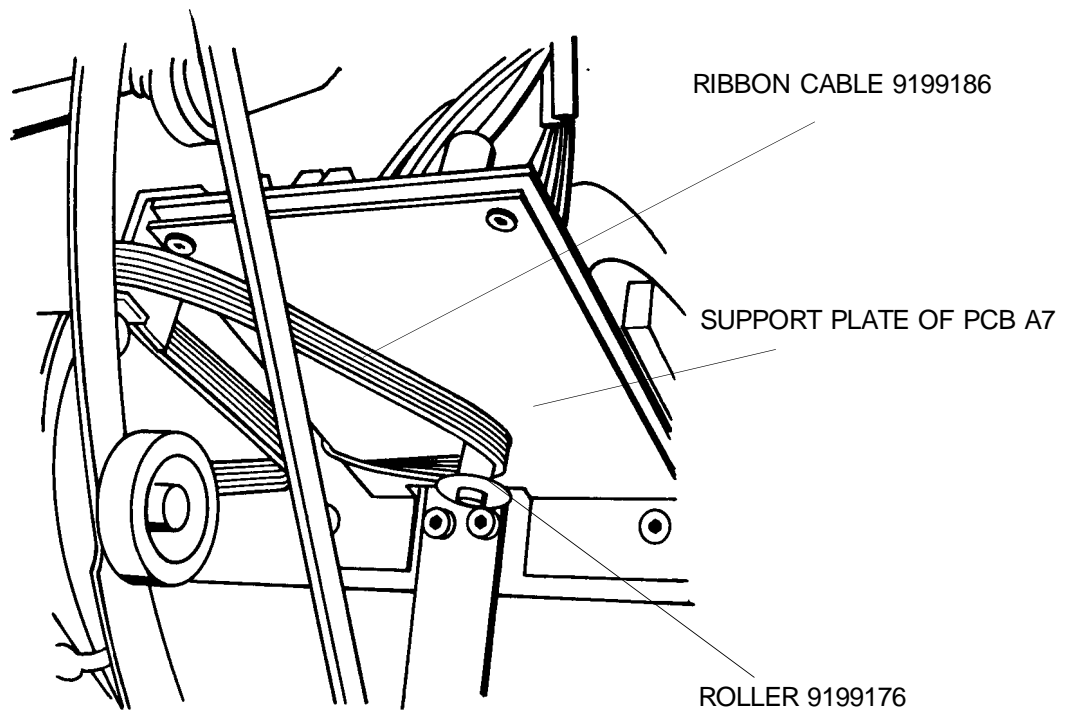

figure 10
- 13.** Route RIBBON CABLE around ROLLER below SUPPORT PLATE of PCBA7 as shown on figure 10.